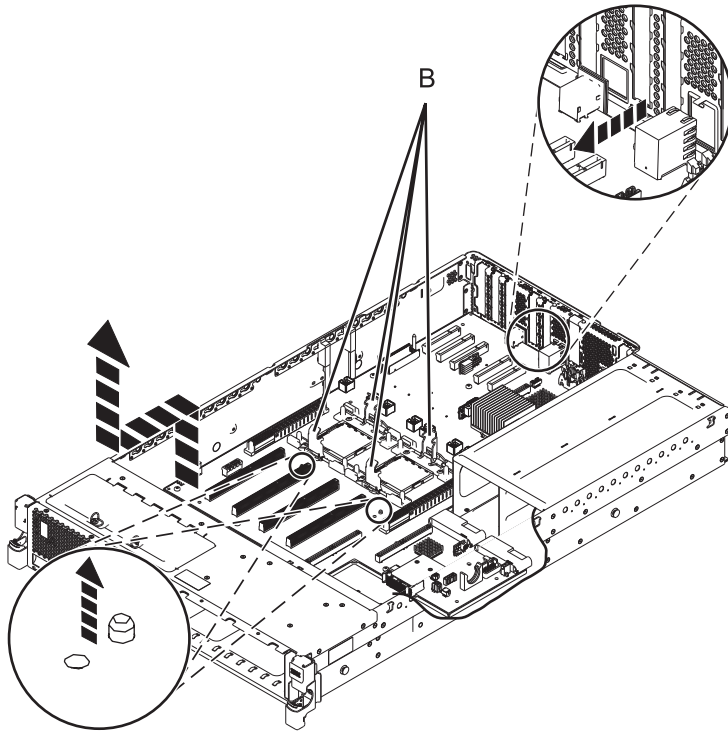
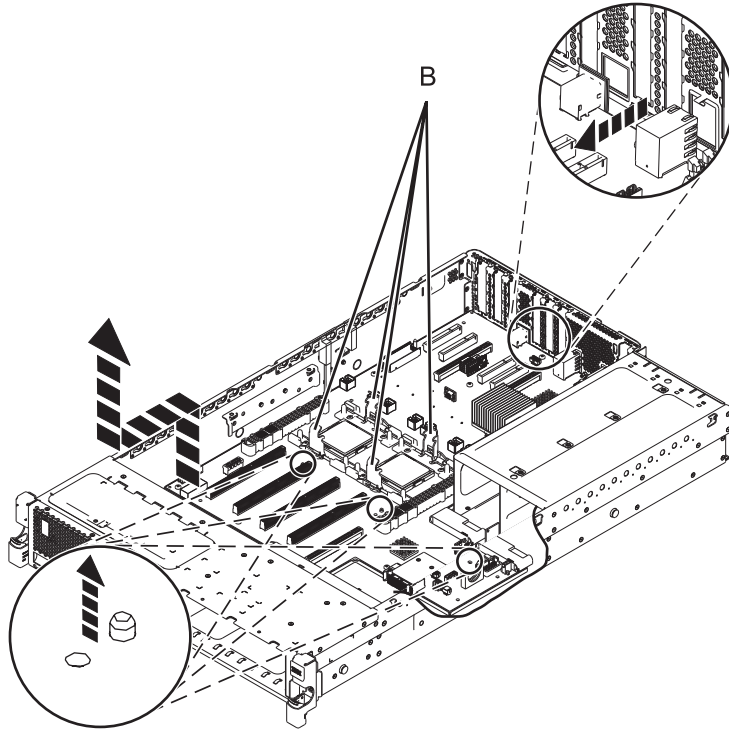

Figure 11. Removing the system backplane from the 8231-E2B
Figure 12. Removing the system backplane from the 8231-E1C, 8231-E1D, 8231-E2C, 8231-E2D, or 8268-E1D
- b. Grip the system backplane by both heat sink load arms (**B**). See Figure 11 on page 14 or Figure 12 on page 15.